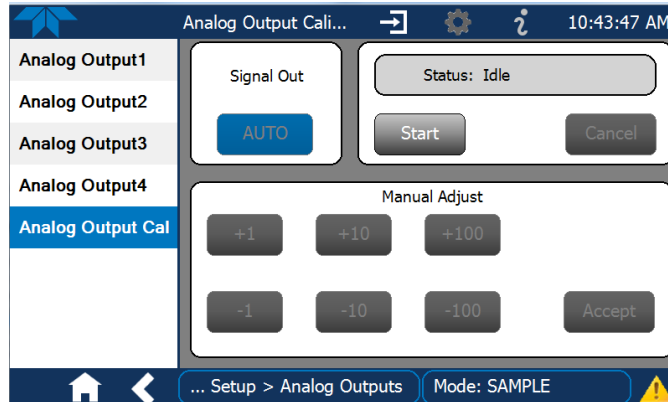

Figure 2-55. Analog Outputs Group Calibration Screen
- AUTO for group calibration (Figure 2-55) of the analog outputs (cannot be selected when Current is selected for the Range)